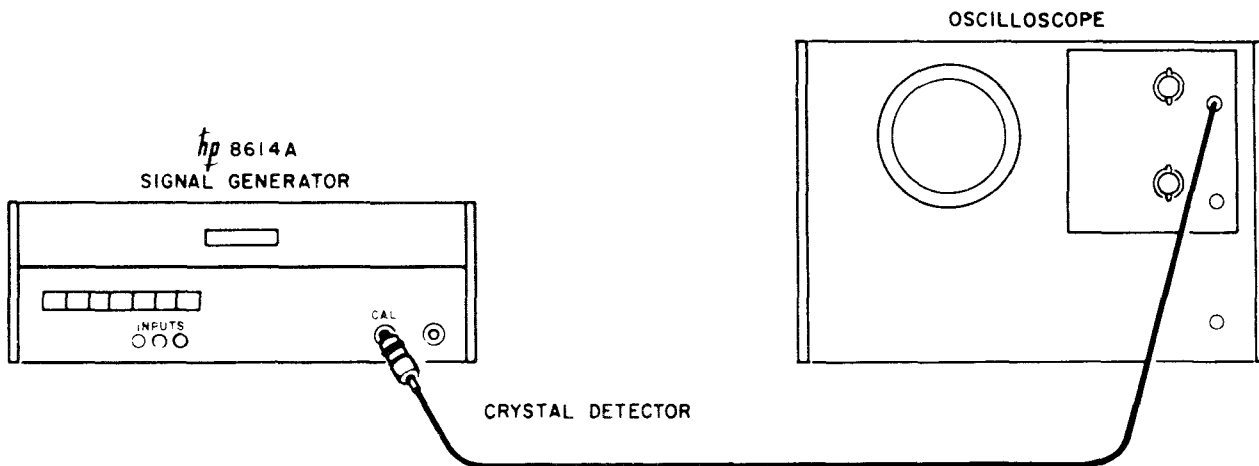

Figure 5-3. Internal Square-Wave Check
a. Connect instruments as shown in Figure 5-3 (see Note, paragraph 5-14, step a).
- ATTENUATION(DB) 0 DB